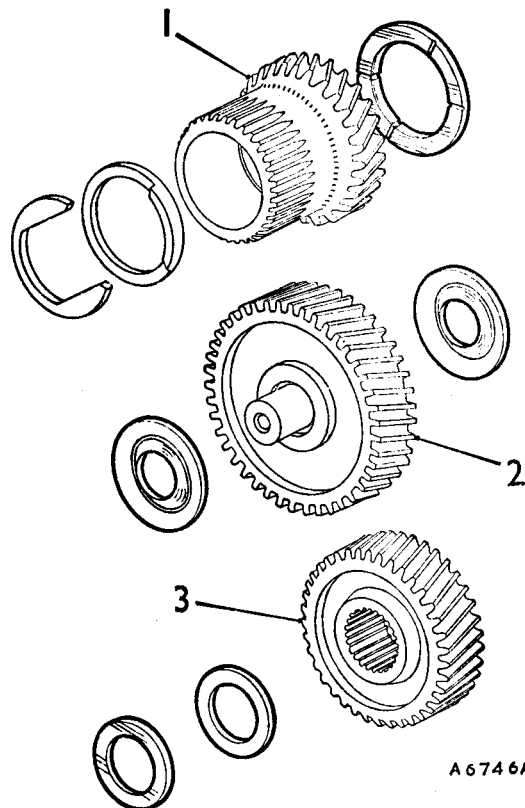
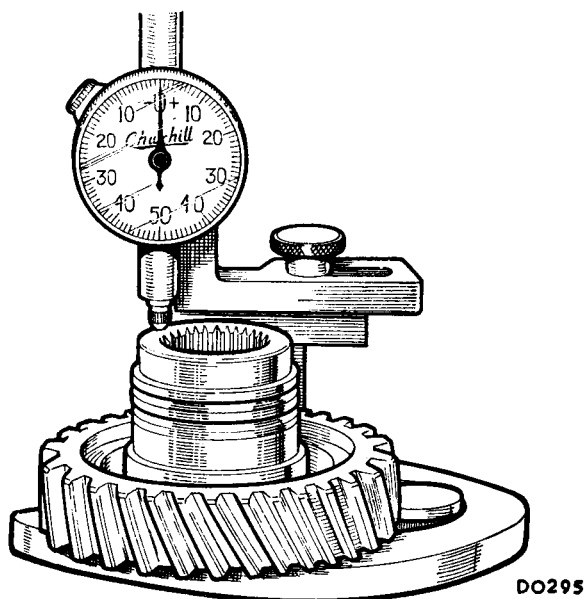
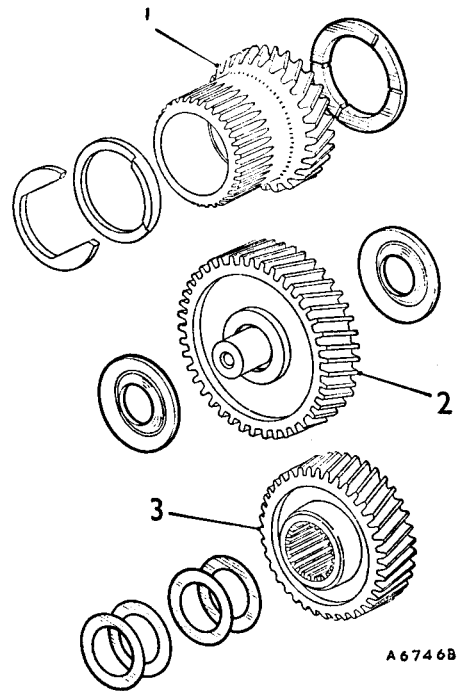

Fig. Aa.14
Fig. Aa.16
Fig. Aa.19
**NOTE.**—Two types of input gears have been used, those fitted to earlier units have two thrust washers (Fig. Aa.14). The later gear (of increased hub thickness) has a number of thin shims fitted to the outer hub face of the gear for adjustment (see Fig. Aa.19).
30. a. Fit one washer on each side of the idler gear as calculated in item 28.
- b. Fit two washers to make up the calculated thickness onto the input gear shaft. Both washers must be fitted to the outside of the input gear (see Fig. Aa.14), with the chamfered inside edge of one washer towards the gear.
31. Carry out item 24.
32. Place the input gear on a surface plate or onto Service tool 18G 191 A and use a dial test indicator gauge, Service tool 18G 191, to take a mean reading. Set the dial gauge to zero as shown in Fig. Aa.16.
39. a. Fit the required thickness of shims as calculated in item 37 onto the outside of the input gear (see Fig. Aa.19).
- b. Fit one washer on each side of the idler gear (see Fig. Aa.19) as calculated in item 38.